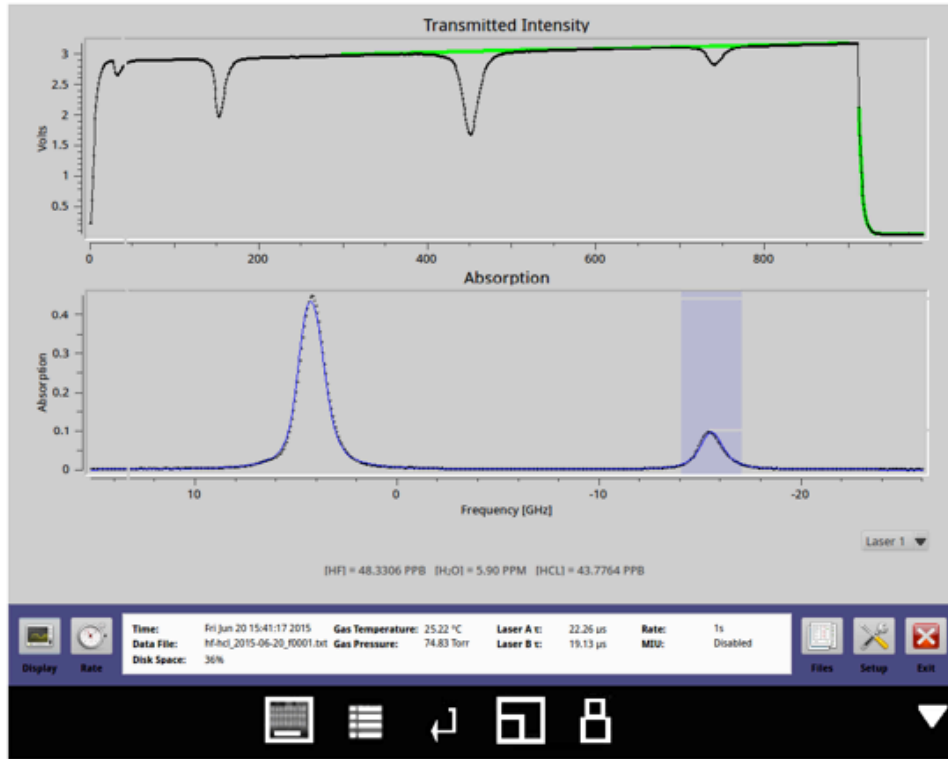

Figure 59: Analyzer Software Interface Display with Size Adjustment for Android Devices
14. Tap the **Connect** button to connect the Android device to the analyzer. The analyzer software interface screen displays on the device. The screen size is adjustable to fit the screen of the device. (Figure 59)